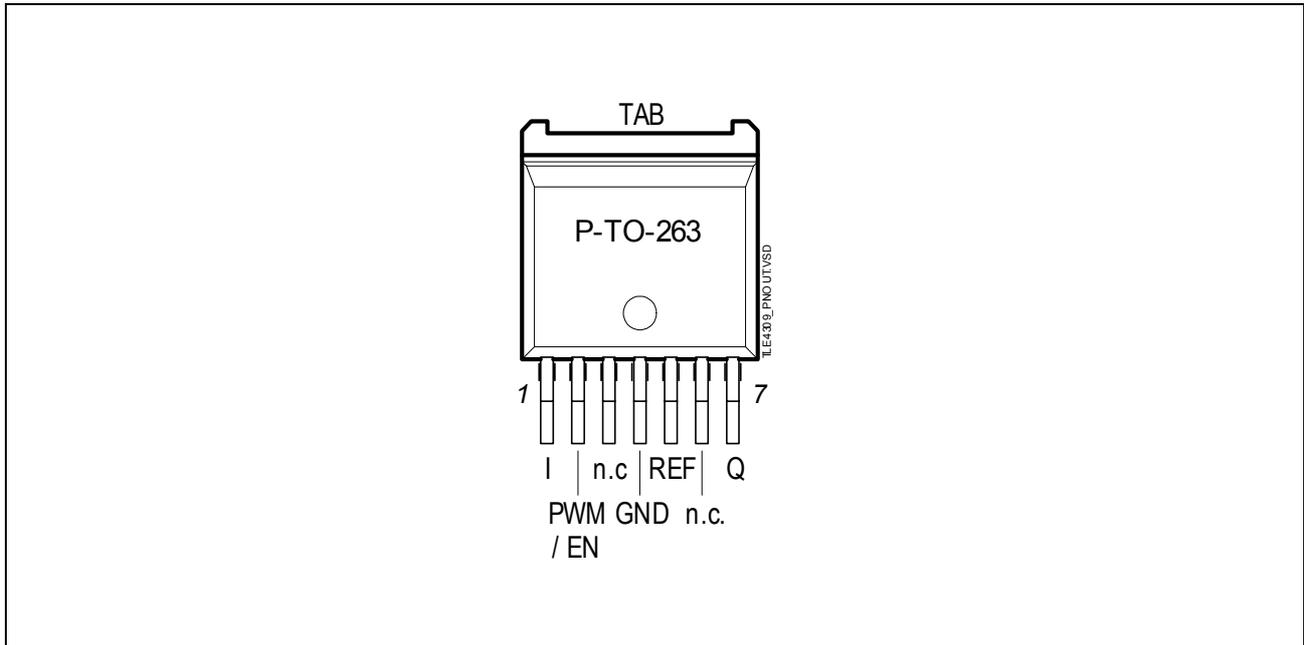

**Figure 1 Block Diagram and Typical Application Circuit**
1)  $(V_Q - V_{\text{REF}})$  equals the forward voltage sum of the connected LEDs, see figure 1.
For a typical application circuit as shown in Figure 1, the following parameters shall apply: